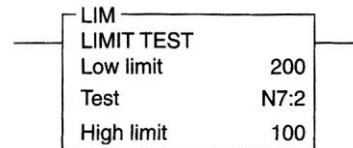

Figure 10-21 Instruction for question 33.
33. What value(s) stored in N7:2 of Figure 10-21 would make this instruction true? 33._____